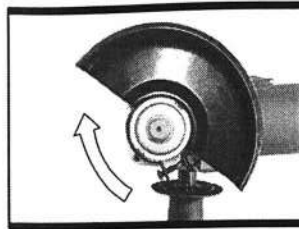
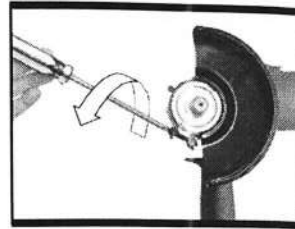

Fig. C2
Fig. C3
Place the wheel guard with coded projection into the coded groove on the spindle collar of the machine head and rotate to the required position (working position). (See Fig. C2) Tighten clamping screw (8). (See Fig. C3)